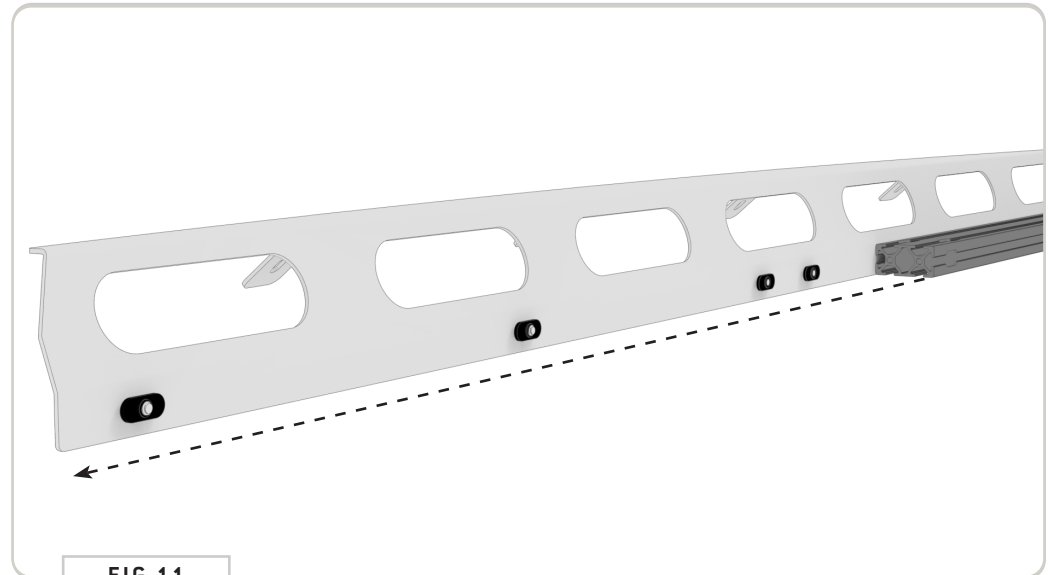

FIG 11
**4.2 Crossbar Install:** Now, slide the **Crossbar** onto the **Crossbar Fairing Bracket**. You'll have to straighten each **T-Nut** as you go to get it to feed into the crossbar correctly (**FIG 11**).